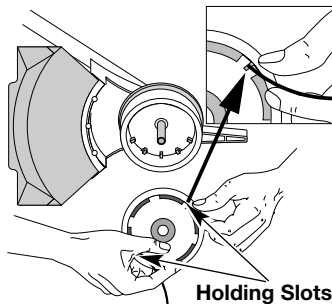

Fig. 34
8. Insert the ends of the line into the two holding slots (Fig. 34).